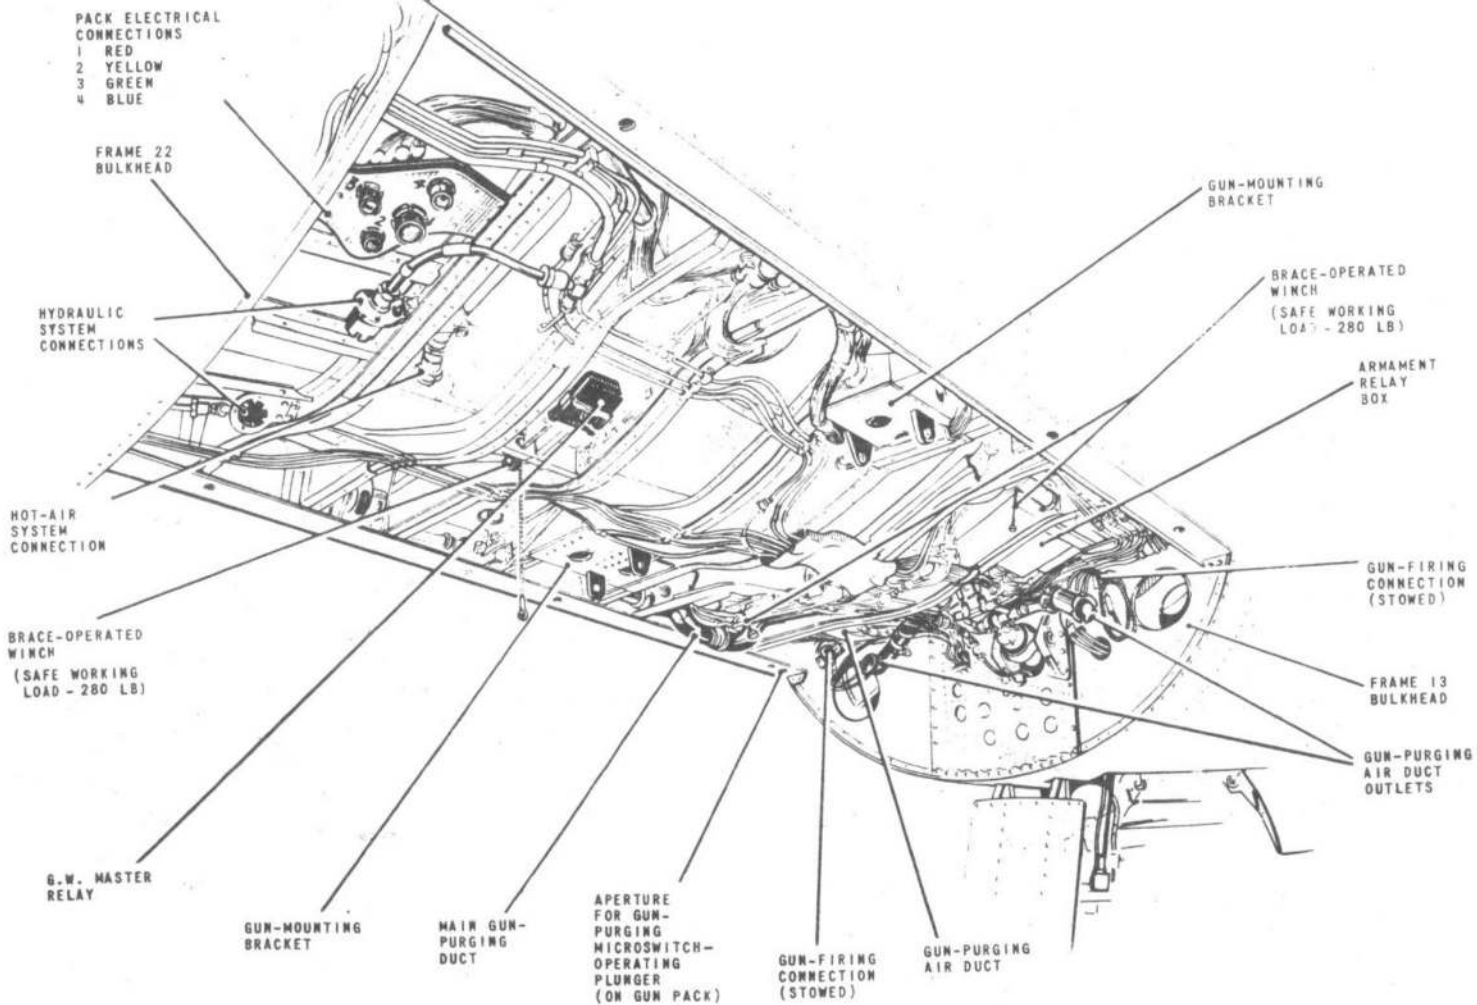

FIG.3. LOWER ARMAMENT BAY
Armament bay (fig.3)
11. The gun-mounting brackets, which provide points of attachment for the harmonization units, are fitted in the roof of the armament bay (*fig.3*) between frames 17 and 18. Each bracket has two attachment lugs, the outer lugs being drilled above the hole for the purpose of wire-locking the harmonization unit lateral adjustment locknut.